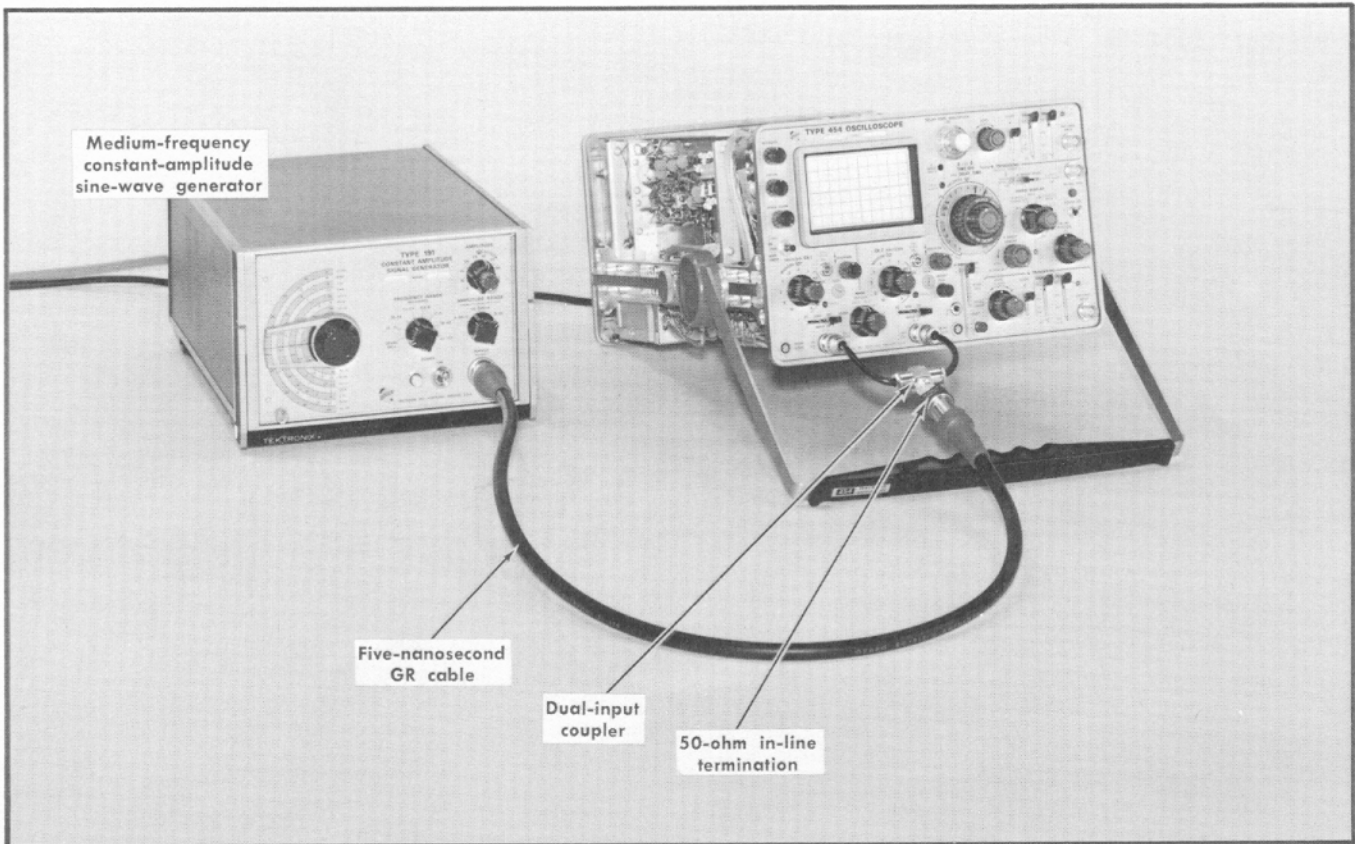

Fig. 6-30. Initial test equipment setup for steps 36 through 38.
- a. Test equipment setup is shown in Fig. 6-30.